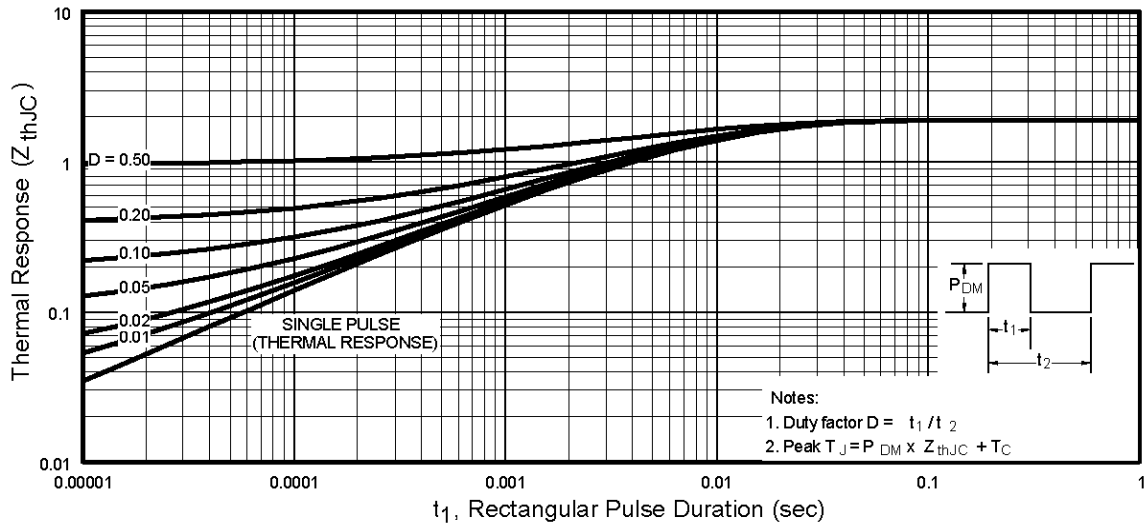

Fig 11. Maximum Effective Transient Thermal Impedance, Junction-to-Case
- ① Repetitive rating; pulse width limited by max. junction temperature. (See fig. 11)
- ② Starting T_J = 25°C, L = 3.7mH